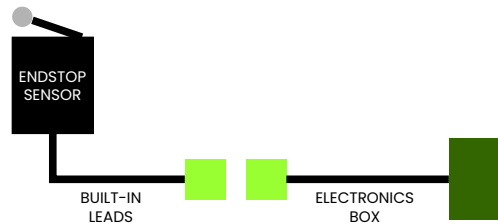

Figure 45: Cabling stages for the Y-Axis sensors.
The cabling for the Y-Axis sensors consists of providing it with power from the electronics board to the sensor. The cabling should be done in such a way that its parts are located in the different major components. Figure 45 presents the cabling stages for the Y-Axis sensor. A total of two (2) 3-pin connectors and 1050 millimeters of 3-phases cable are needed in order to execute the Y-Axis sensors cabling. Table 5 presents the procedure for cabling the Y-Axis sensors.